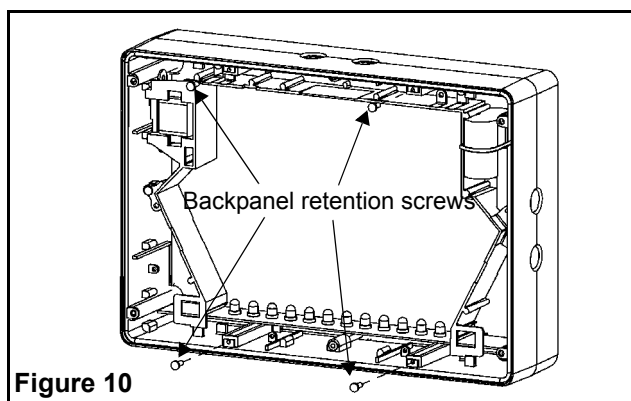

Figure 10
3. Install the four backpanel retention screws (see fig. 10)